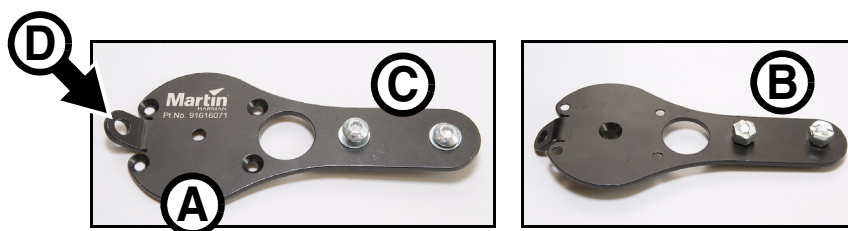

Figure 5: VDO Dotron to Sceptron End Coupler
1. See Figure 5. Pass four grade 8.8 (or equivalent strength) non-countersunk M4 x 8 mm machine screws or bolts through the four holes **A** in a Dotron Half-Coupler Clamp and fasten the screws or bolts into the back of the dot. Use a torque driver to tighten to a torque of 2.5 Nm.
1. See Figure 5. Pass four grade 8.8 (or equivalent strength) M4 x 8 mm countersunk screws through the four holes **A** in a Dotron to Sceptron End Coupler and fasten them into the back of the Dotron. Use a torque driver to tighten to 2.5 Nm.